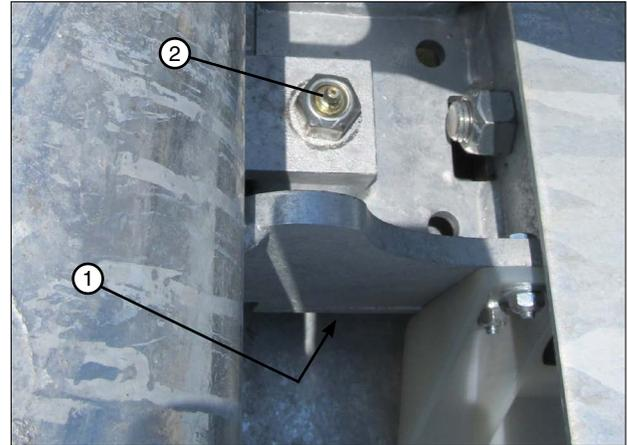

Figure 35-1 1. Guide Roller
1. From the top of the extended cradle, use a grease gun to lubricate the grease fitting on each guide roller. See Figure 35-1.